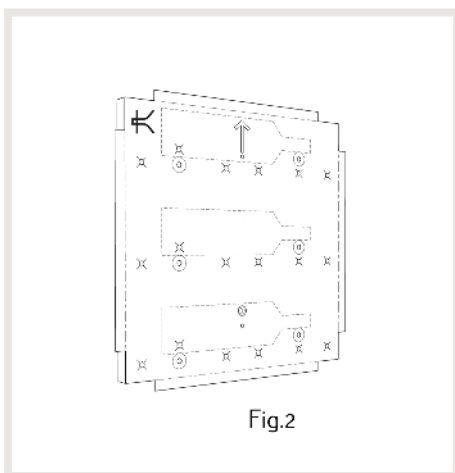

Fig.2
4. Using the WinePanel™ design and installation template, determine whether you are installing Posts or Pegs on the panels. \*Fig2